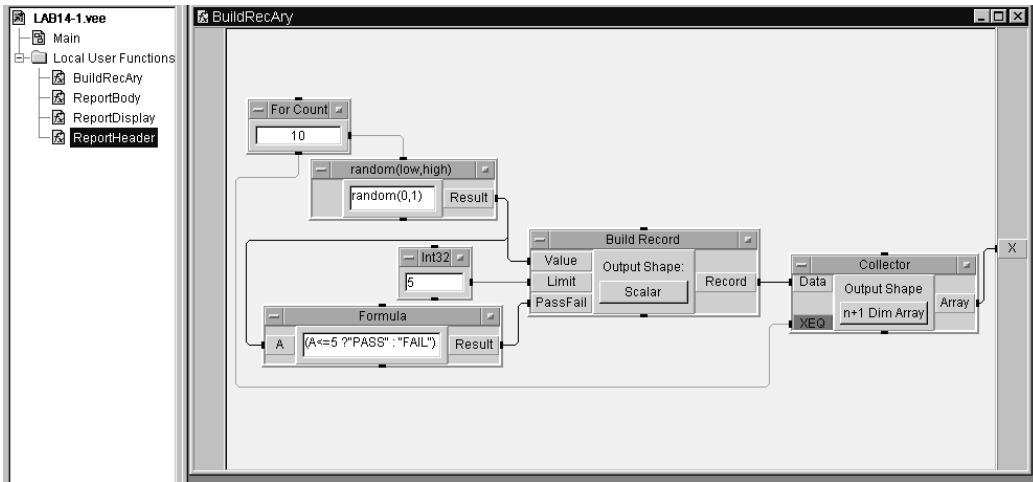

Figure 14.2. The BuildRecAny UserFunction
8. Add the six objects; program and connect them as shown in Figure 14.2; minimize the BuildRecAry UserFunction.